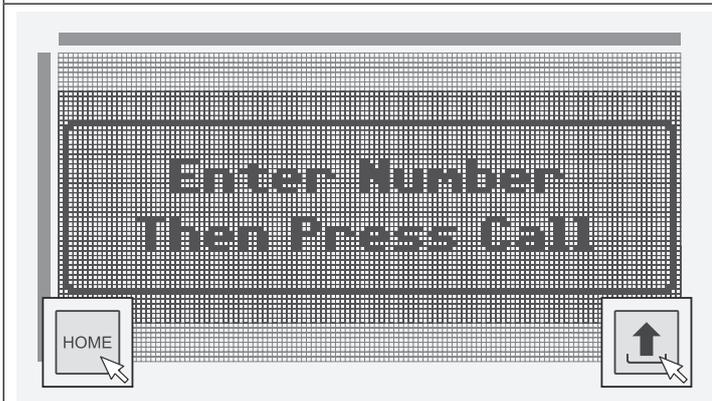

Fig. 94
- Click on the home screen icon to switch back to the default home (welcome) screen and then click on the upload to panel icon, as shown in **Fig.94**. This image/logo will be uploaded back into the panel (including any edits made to it from step 4).
After uploading the logo back into the **Digital GSM** panel when the **Digital GSM** intercom is in standby and the display switch time has been set (see **Fig.44** and refer to notes on how to set up the display switch time page 26) it will initially show the logo from **Fig.94** as the new default home (welcome) screen on the main graphical display.